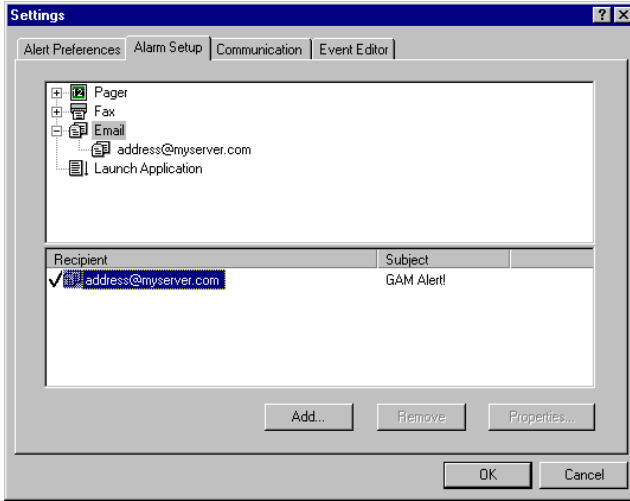

Figure 4-15. Email Alarm Setup
1. Select the Email alarm type in the upper window of the Alarm Setup dialog box (Figure 4-15).
Your new Email entry appears in the lower window of the Alarm Setup dialog box. (Refer to Figure 4-15 for an example.)